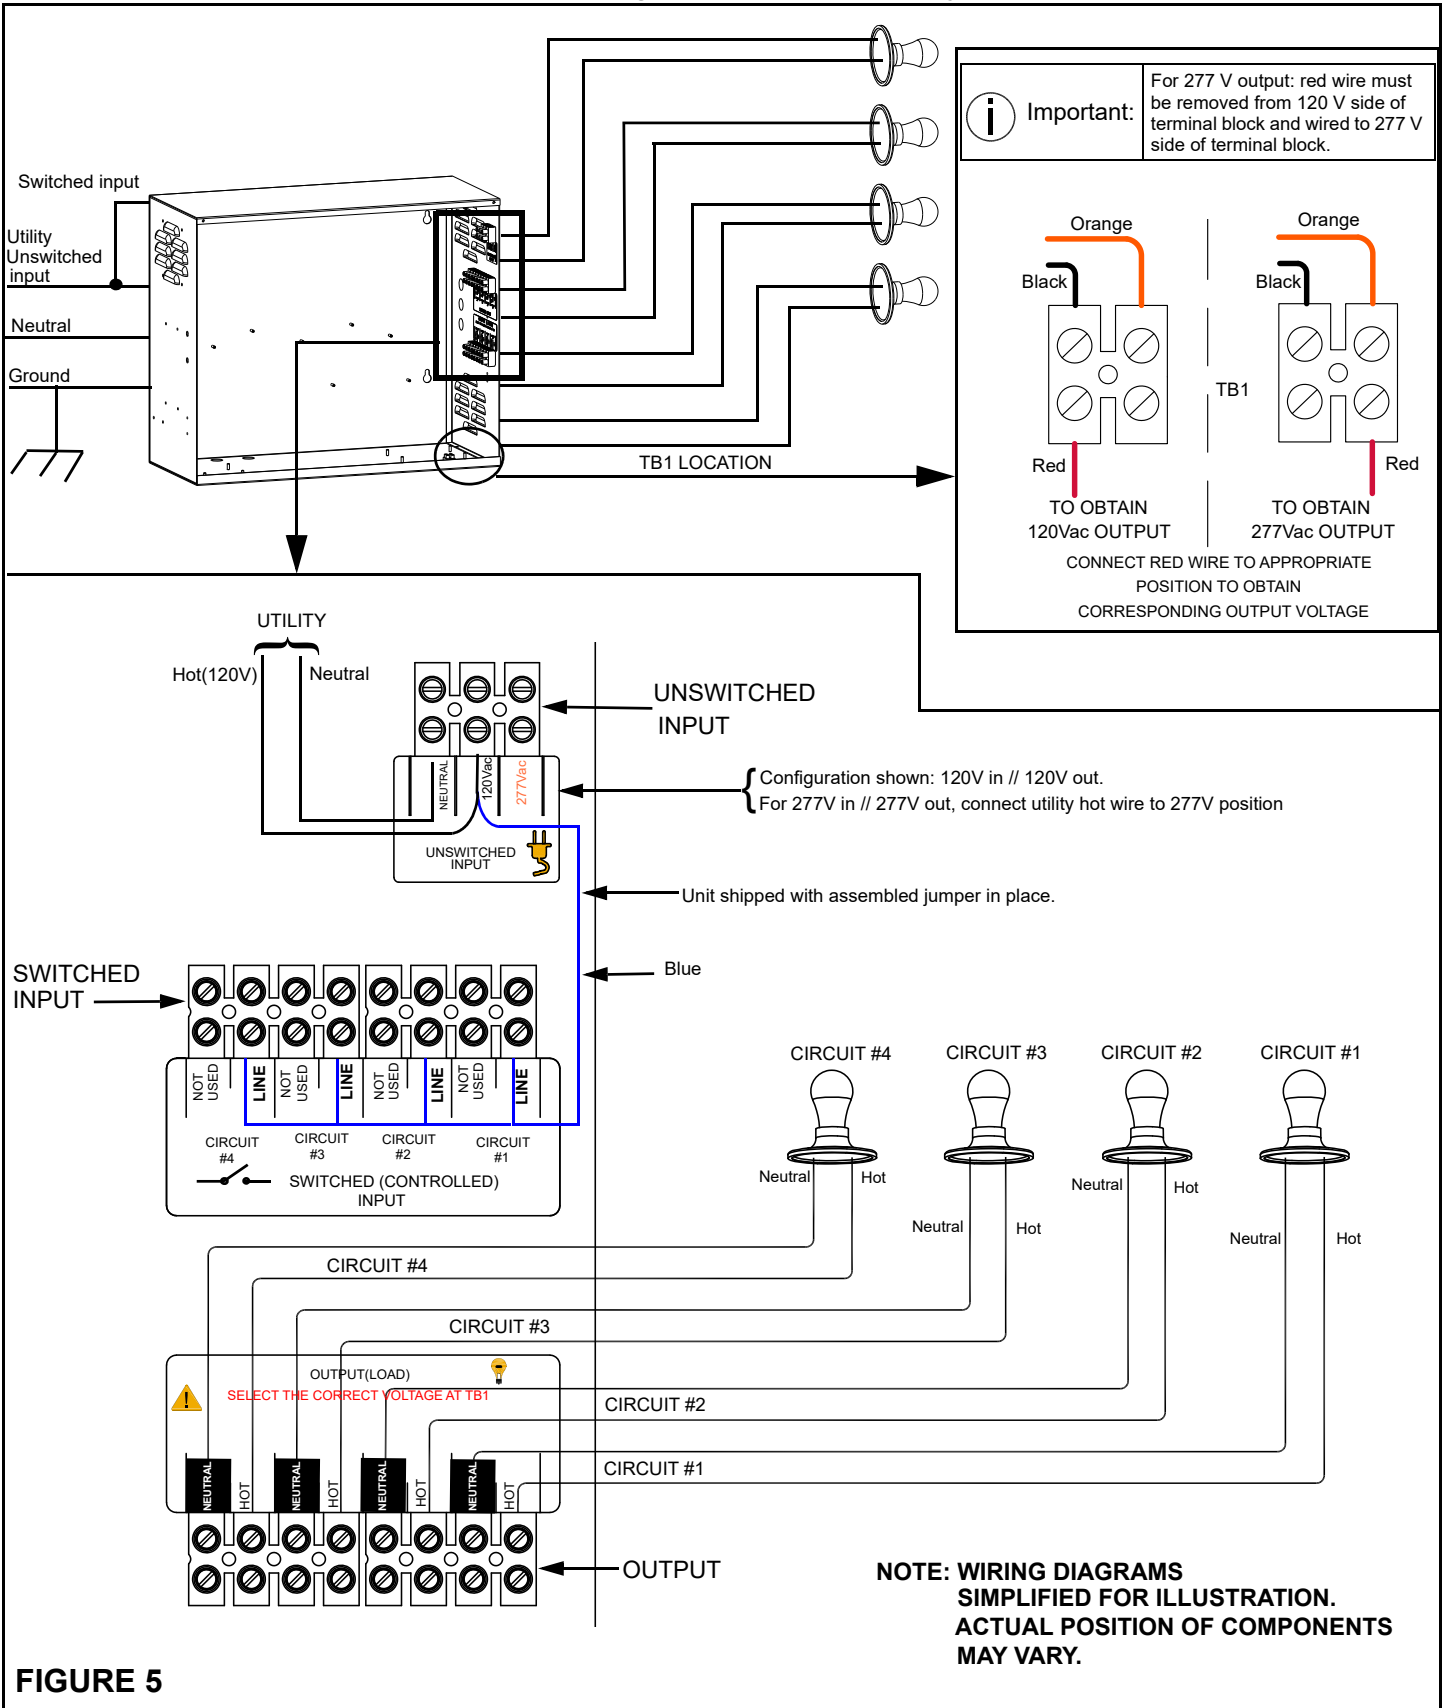

FIGURE 5
- b. Identify the terminal block for UNSWITCHED INPUT (figures 5, 6, 7 or 8).
- a. **Normally-On Operation** (Refer to Figure 5 for wiring details) - Fixtures remain illuminated in normal AC and emergency modes.
Refer to the applicable wiring diagram in figures 5, 6, 7 and 8 to connect the utility AC power and external control devices (where applicable). Perform all wiring procedures in accordance with applicable codes. The unit is shipped configured to operate in Normally-On mode by using an assembled jumper. This jumper can be removed to configure the SWITCHED INPUTS as desired.
- c. Identify output terminal block (refer to figures 5, 6, 7 and 8).